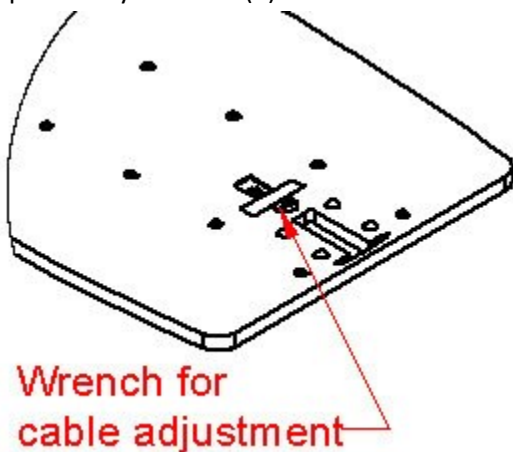
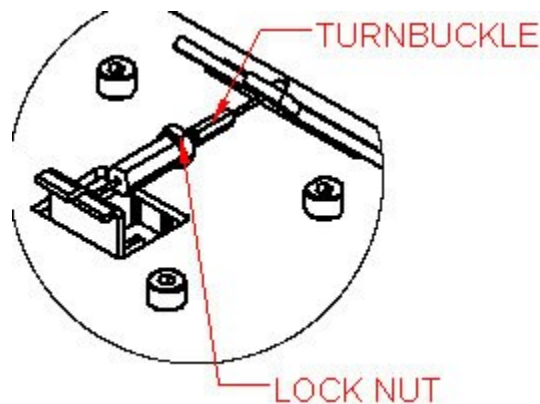

Figure 1.
Figure 2.
1.1 Adjusting the cable tension. After removing top (see section 4) find wrench on the bottom side of the top, (Figure 1). All rotations are given looking from the turnbuckle to the lock nut. Using the wrench, first loosen the lock nut (Figure 2) ¼ turn with the large end of the wrench by turning counter clockwise. Next, with the small end of the wrench loosen the turnbuckle (Figure 2) ¼ turn (clockwise). Replace the top without the screws & check the table to see if the downward drift is still present. If so, continue releasing the turnbuckle ¼ turn at a time until the drift is gone. Tighten the lock nut (clockwise) and replace the wrench & tape it to the Top, then replace the top permanently with the (8) screws from section 4.